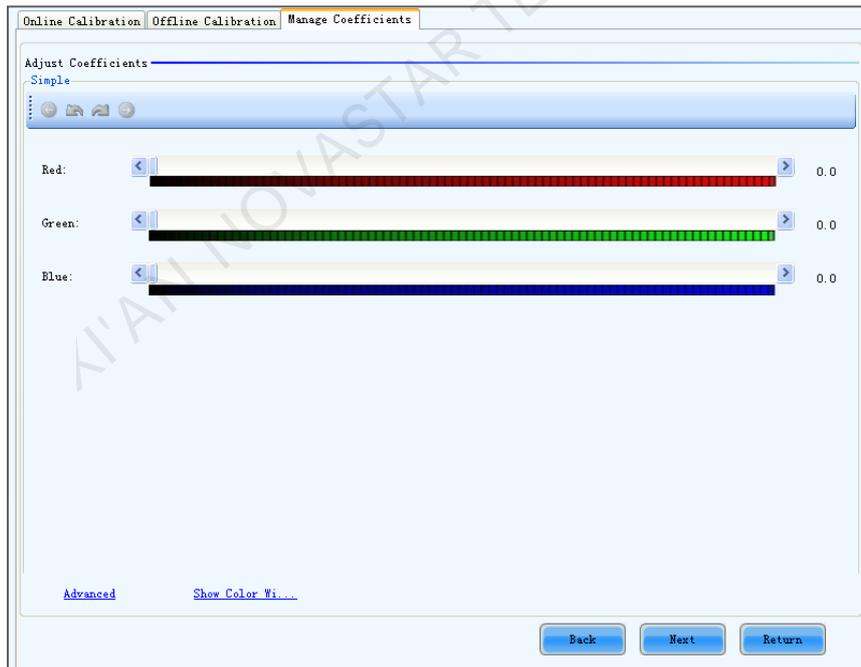
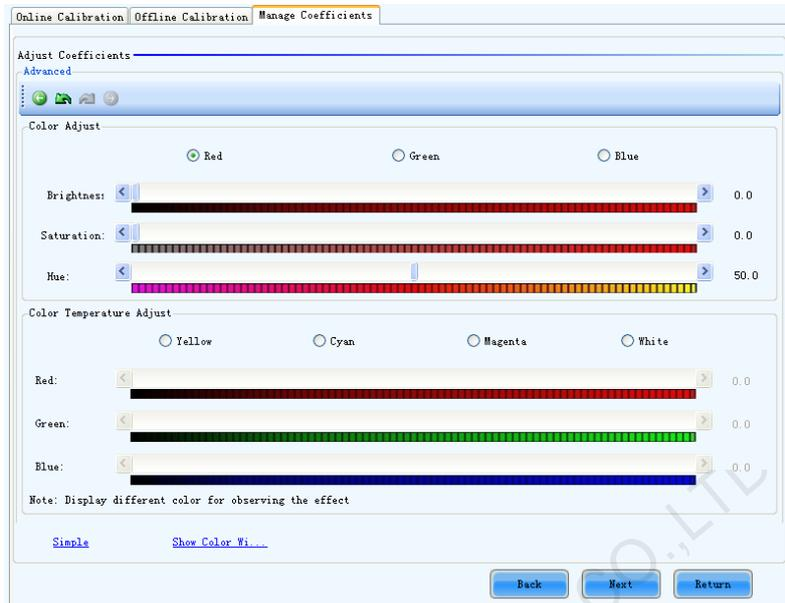

Fig. 7-71 Simple adjustment page
Fig. 7-72 Advanced adjustment page
- 3) If the calibration coefficients from Step 2 are not satisfying, they can be adjusted. There are two type of adjustment, Simple and Advanced. Shown in Fig. 7-71 and Fig. 7-72 are the pages for Simple and Advanced adjustment respectively.